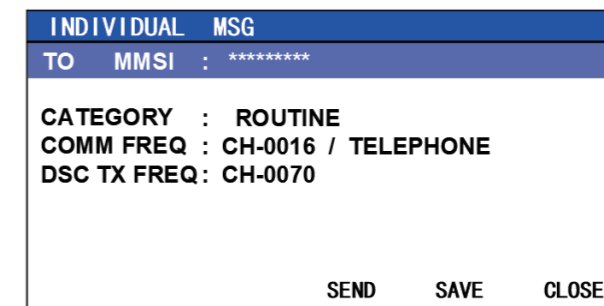

Figure 5.1.1
- b: Use the [CH/ENT] knob to select <Individual Call>, then press [ENT] to open the editing interface, as shown in Figure 5.1.1.